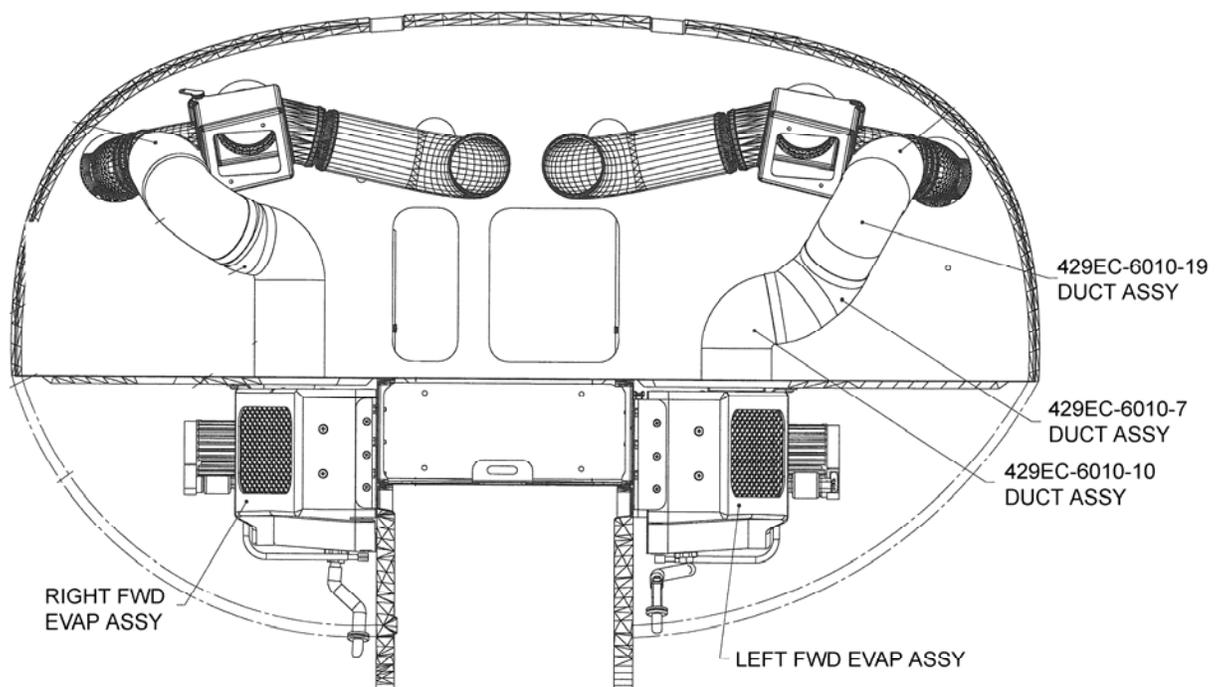

Figure 3: View Looking Aft at Fwd Evaporators and Ducting
3. Remove left forward evaporator assembly and discard. See Figure 3.
4. Remove and discard 429EC-6010-10 and 429EC-6010-7 duct assemblies between left evaporator and 429EC-6010-19 LH elbow assembly. See Figure 3.